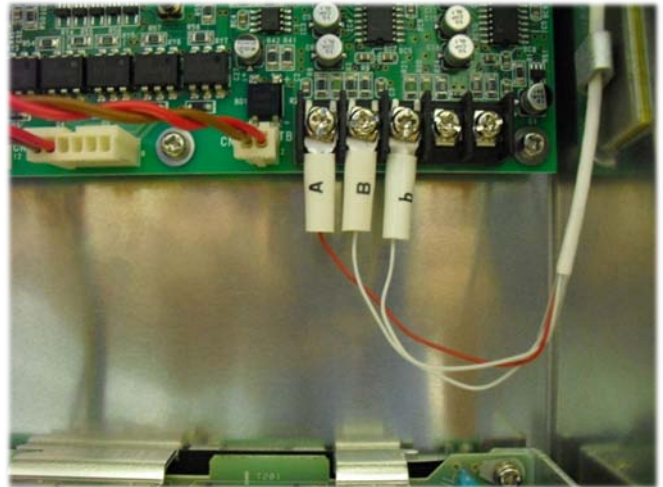

Figure 7
3. Remove sensor connections labeled A, B, and b (See Figure 7 on the next page)